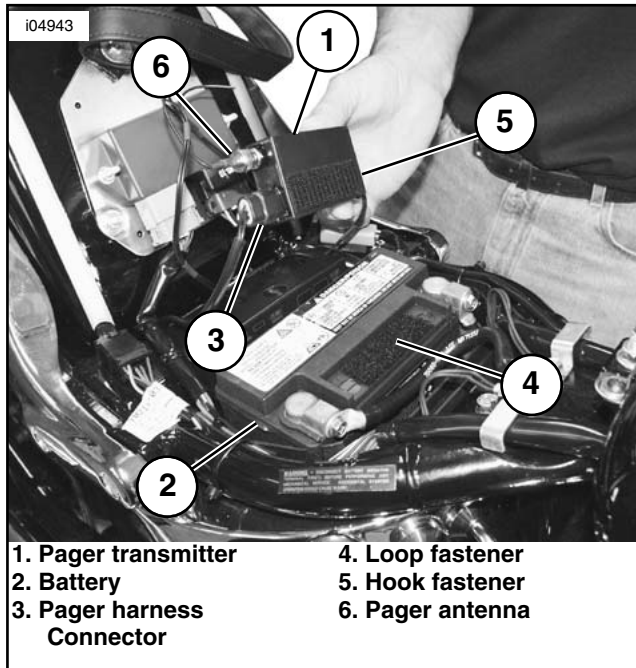

Figure 10. Install Pager Transmitter
Install the hook fastener on the pager transmitter on the same side as the harness connector (as shown in Figure 10).
11. See Figure 10. Clean the mounting surfaces of the pager transmitter (1) and battery (2) using alcohol or other suitable cleaner, and apply the hook (5) and loop (4) fasteners.